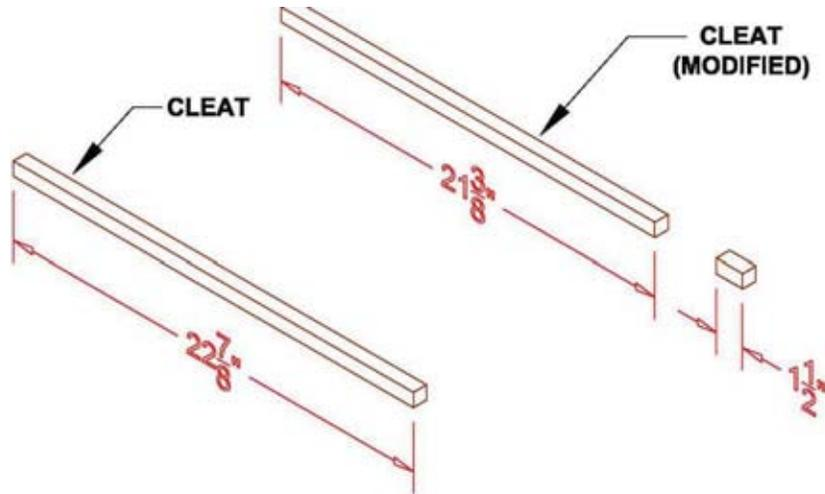

**Figure 2a**
2. Lay the door on a flat, scratch-free surface with the hinge holes facing up. Take the first hinge and with the rectangular cover plate open press the round part of the hinge firmly into the holes in the door and snap the rectangular plate closed (**Figure 2a & 2b**). Repeat for the remaining hinges.